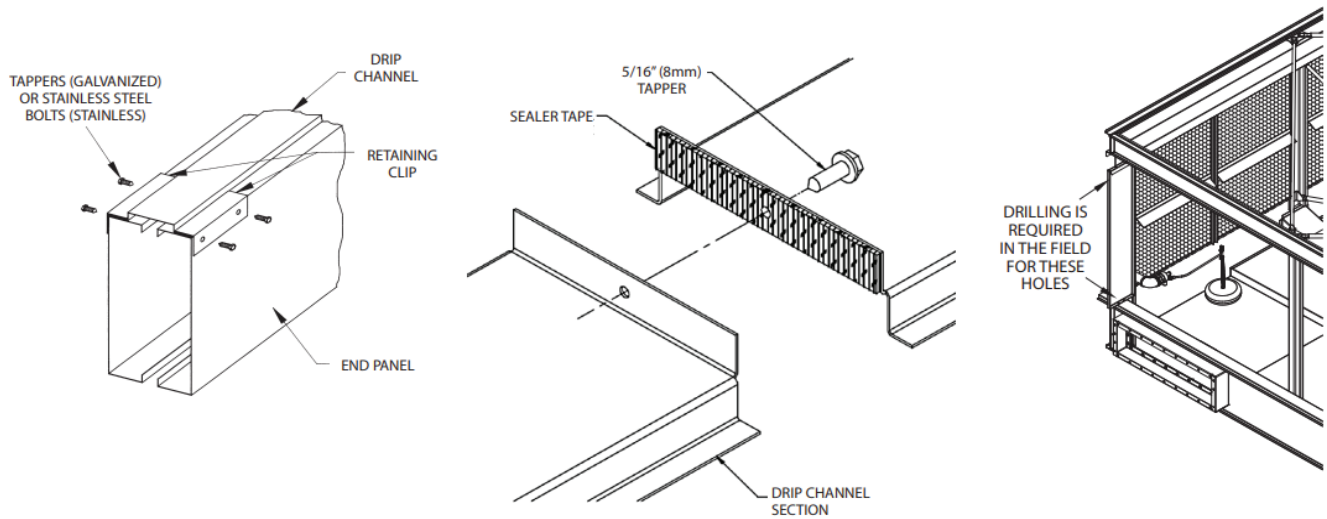

Figure 3b — Drip Channel and Vertical Splash Guard Installation
11. Once the bottom of the vertical splash guard has been attached to the drip channel, place the filler cap channel in the upper flanges of the bottom section as shown in Figure 3b. Attach to vertical splash guards using 5/16" (8mm) tappers (for galvanized units) or stainless steel nuts and bolts (for stainless steel units).